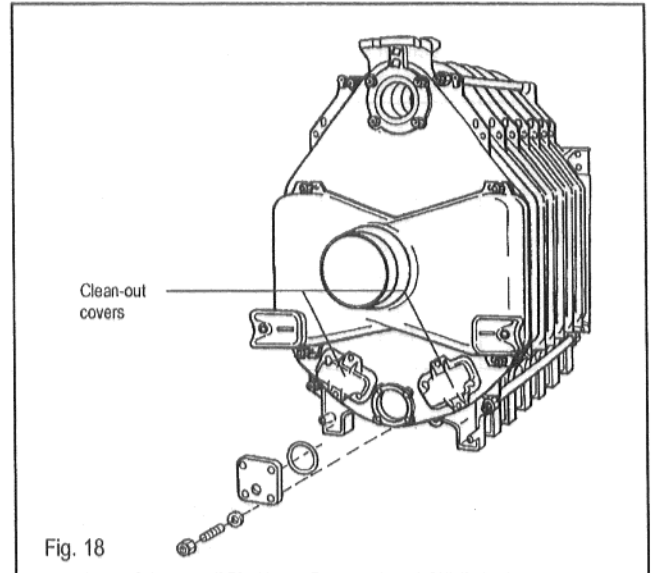

Fig. 18
- Place cleaning cover on studs provided (Fig. 18). Secure with washers and nuts provided to ensure a gas tight seal.